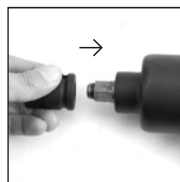

Figure 1
4. Choose the correct impact socket (not provided) as needed and mount it onto the anvil. (See Figure 1)